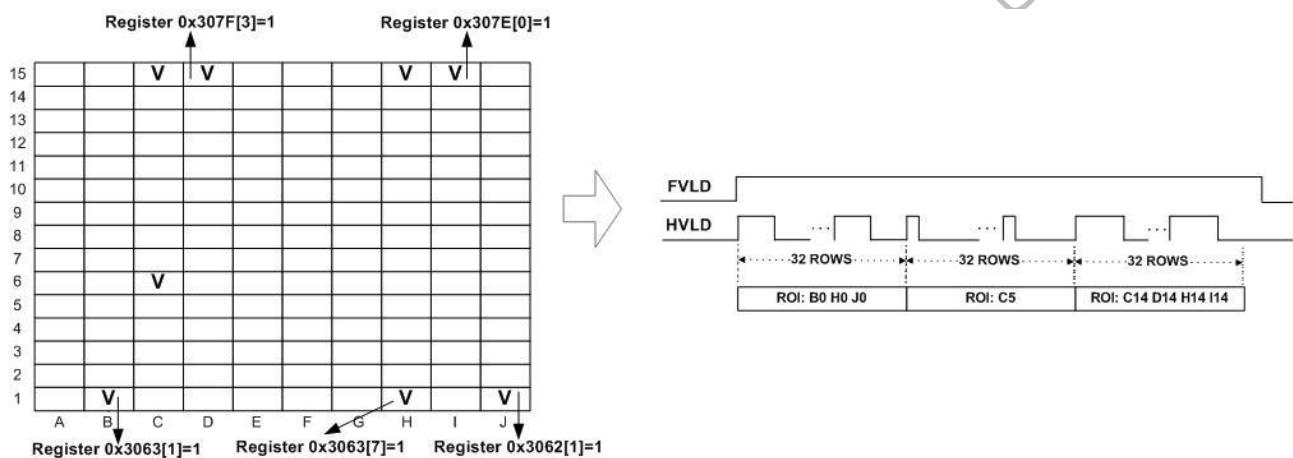

Figure 3.5: VGA ROI window readout with parallel interface
The HM0360 supports Region of Interest (**ROI**) window readout mode. The array is partitioned into 10(H) x 15(V) independently addressable ROI blocks. As shown in the ROI example below, the ROI selection is independent, and the frame timing will need to be programmed and adjusted based on the selected active region as shown in the Figure 3.5. The resolution of each ROI block is scaled based on the binning / subsampling mode as described in Table 3.1.